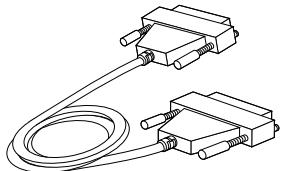
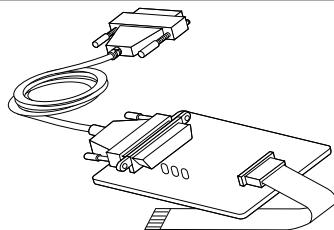

Fig.1. Printer Cable
Fig.7. Connecting Method
1. Connect Fig. 1, 2, 3 as Fig. 7.
4. Connect Printer Cable(Fig.1) to the P.C.Printer Port (LPT1).